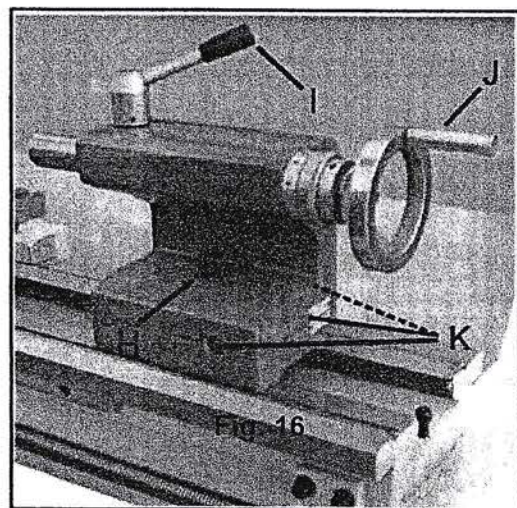

Fig. 16
16. Tailstock Clamping Screw (H, Fig. 16)
17. Tailstock Quill Clamping Lever (I, Fig. 16)
18. Tailstock Quill Traverse Handwheel(J, Fig. 16)
19. Tailstock Off-set Adjustment (K, Fig. 16)